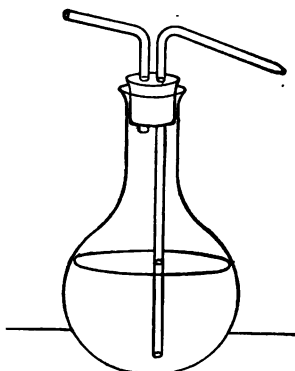

FIG. 32.
M. We must use pure water for our chemical experiments in order not to mix other substances with our solutions. We keep this water in a vessel in order that we may conveniently use it. First I cut off a piece of glass tubing half as long again as the height of this flask; and then a short piece. I hold the long bit in the flame and turn it round till its edge softens; it contracts, and when the opening is reduced to half a millimetre I let it cool. Then I bend the short tube to an obtuse angle, and the long one, after the end has cooled, to an acute angle; and lastly I round all the ends. And now I bore two holes in a cork that fits the flask, stick the tubes through the holes, and my wash-bottle is ready (Fig. 32). Now we will fill it with distilled water, after having washed it out several times.